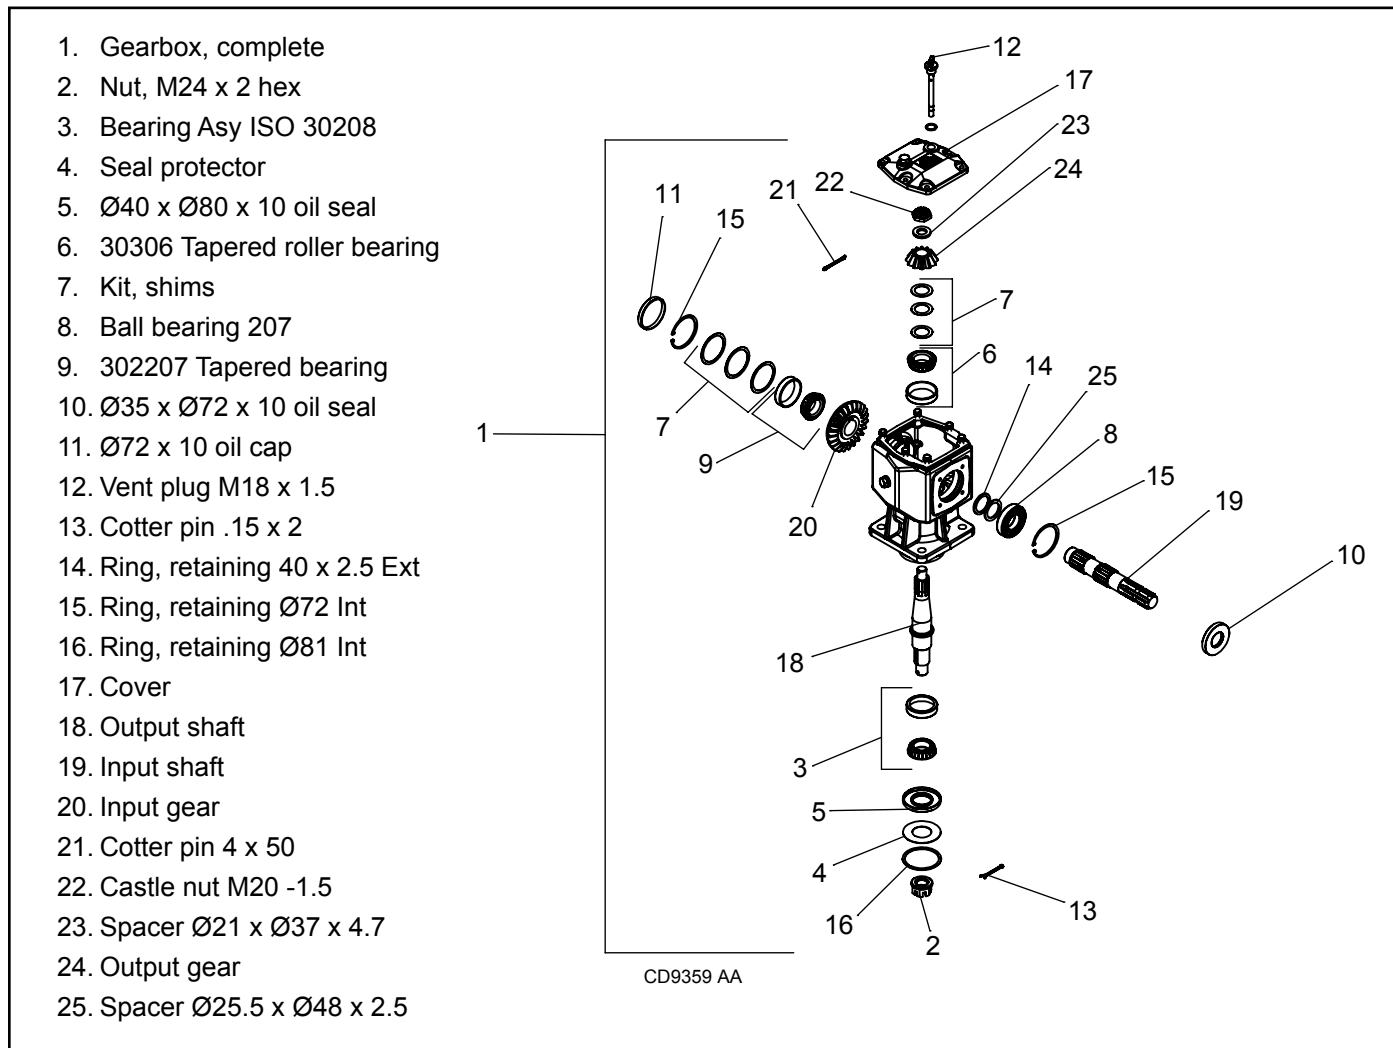

Figure 26. Gearbox Assembly
2. Remove vent plug (12). Figure 26, and siphon gear lube from housing through this opening.
5. Remove vertical shaft seal (5). Replace with new seal (see Seal Replacement, page 31).
2. Remove vent plug (12), Figure 26, and siphon gear lube from housing through this opening.
3. If the leak occurred at either end of horizontal shaft, remove sealing plug (11) and/or oil seal (10). Replace with new one (see Seal Replacement, page 31).
(Figure 26)